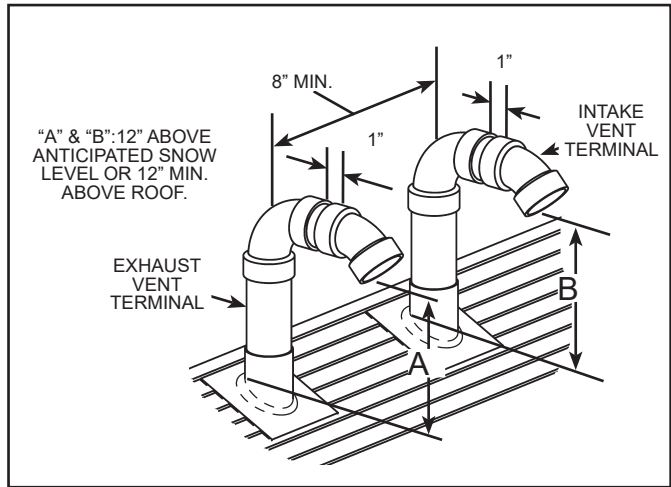

Figure 20.
**Important:** When terminating the vents through a roof, the following specifications pertaining to terminal location must be followed (see Figure 20).